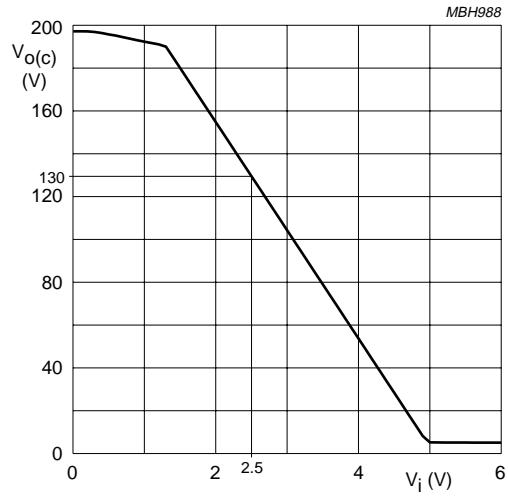

Fig.5 Typical DC-to-DC transfer of  $V_i$  to  $V_{O(c)}$ .
1. See also Fig.5 for the typical DC-to-DC transfer of  $V_I$  to  $V_{O(c)}$ .